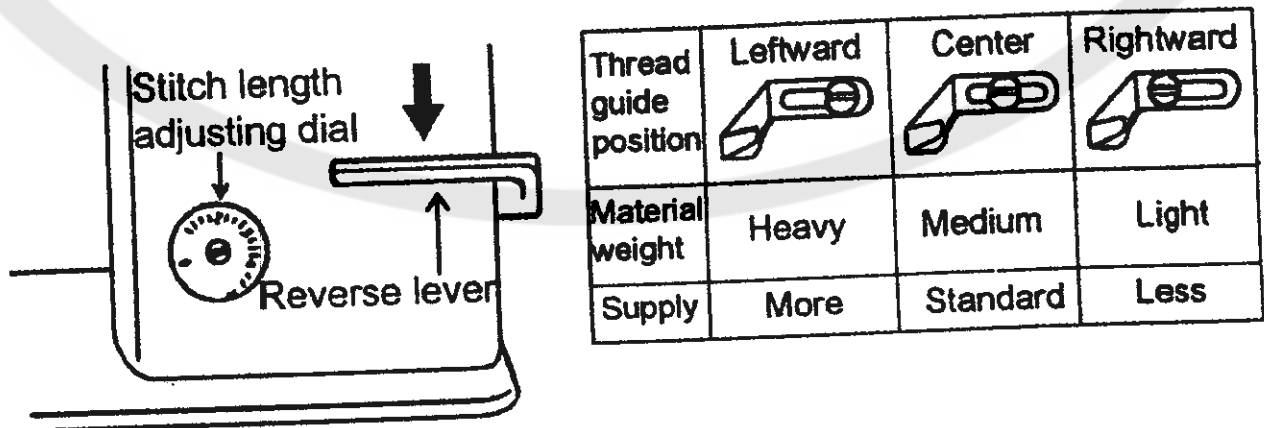

Fig. 4
8、 Adjustment of stitch length and reverse sewing (Fig.4):